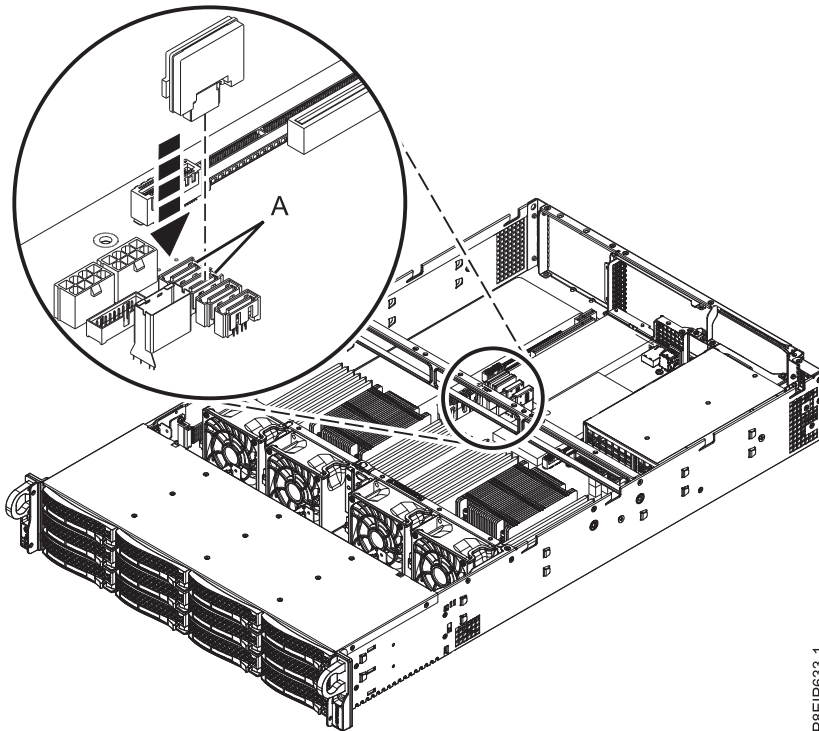

Figure 10. Installing a DOM
2. Install the DOM into the system backplane, in positions **(A)**, as shown in Figure 10. Depending on the DOM model, you may also have to plug in a small power cord for the DOM. Ensure you plug the connectors in properly.